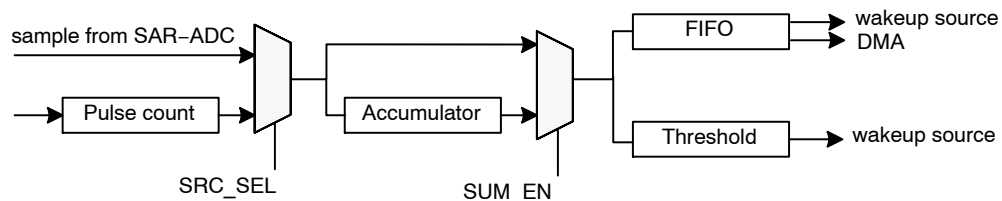

Figure 4. ULP Data Acquisition Subsystem.
- This mode is enabled when SUM_EN is set on Figure 4